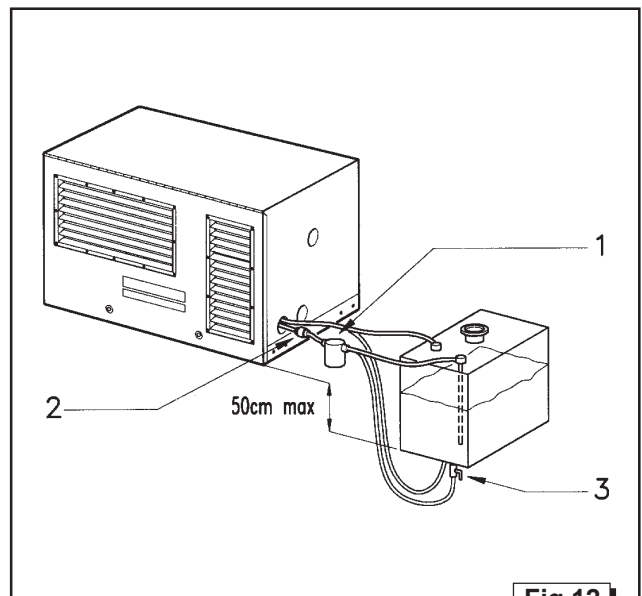

Fig.12
The VOYAGER generator runs on diesel oil and, not being fitted with a tank, has to be connected to an external tank, which can also be that of the motor vehicle itself. The generator is fitted with a suction-compression pump (SC), able to pump fuel up to a maximum height of 50 cm (Fig. 12), and with a cartridge filter. It is best to equip the generator-tank connection with: a faucet (Fig. 12 Ref. 3), with a water-fuel separator filter (Fig. 12 Ref. 1) and with a single-acting valve (Fig. 12 Ref. 2) so as to prevent the emptying of the fuel system (use a single-acting valve with 50 millibar aperture). The pipes to be used to connect the generator to the tank must be of hydrocarbon-resistant rubber with an internal diameter of 6 mm.